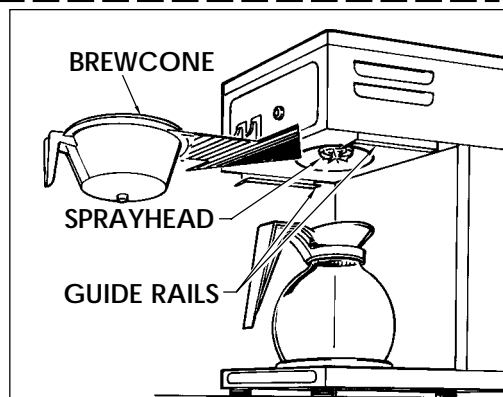

Figure 1. Sprayhead and brewcone rails.
3. Insert an empty brewcone into the brew rails unit (fig. 1.).
2. Slide brew cone into guide rails (fig. 1.). Place clean decanter on warmer plate (use airpot when brewing with Café AP).